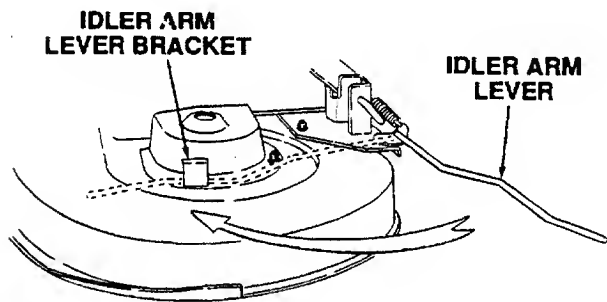

Figure 37
5. Engage the deck idler arm lever into its stop bracket. (Refer to Figure 37.)